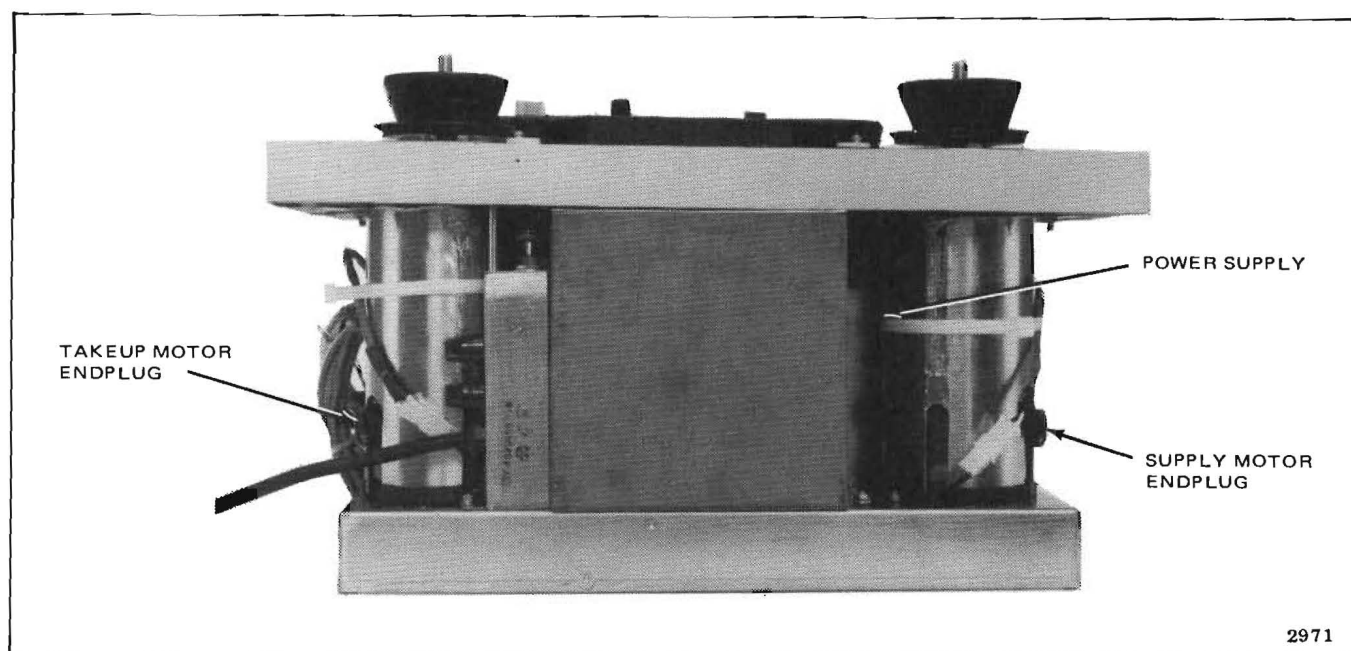

Figure 5-51. Reel Drive Motor Brush Replacement, Rear Side View of Transport
2. To remove a brush, use a large bladed screwdriver and unscrew the motor endplug (Figure 5-51). The brush has a spring attached which maintains pressure against the motor commutator. Slide the old brush out of the retaining hole in the motor.